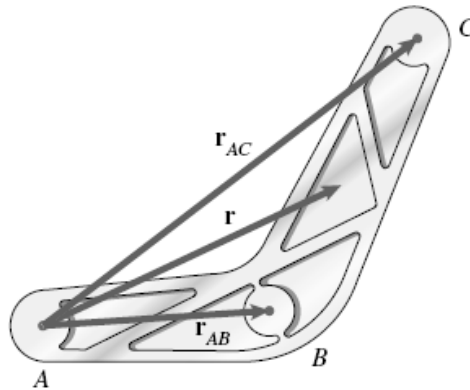

Figure Q1[a]
- Q1. [a]** The vector “ r ” extends from point A to the midpoint between points B and C, as shown in Figure Q1[a]. Prove that $r = \frac{1}{2}(r_{AB} + r_{AC})$